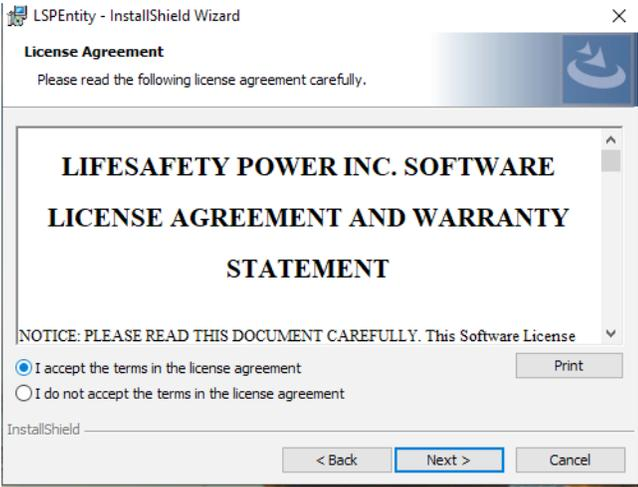

Figure 3
5. Read and accept the license agreement, then click Next (Figure 3).